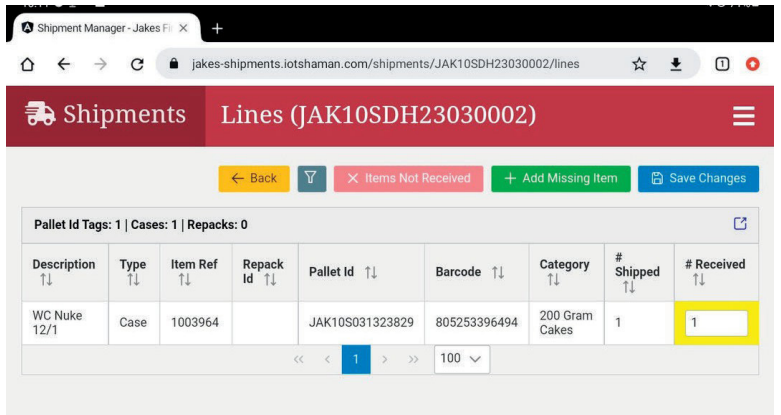

Figure 9
- f. Only the selected item will appear on the screen at this time (Figure 9)